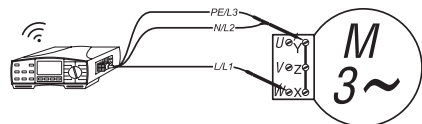
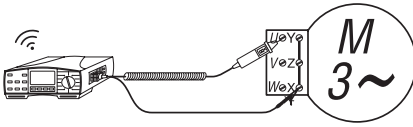

Figure 15: Connection of test leads
Figure 16: Connection of COMMANDER 2
- ▶ Connect the test leads to UUT in accordance with Figure 15 or Figure 16 and pay attention to the displayed measurement result or acoustic signals during active measurement.